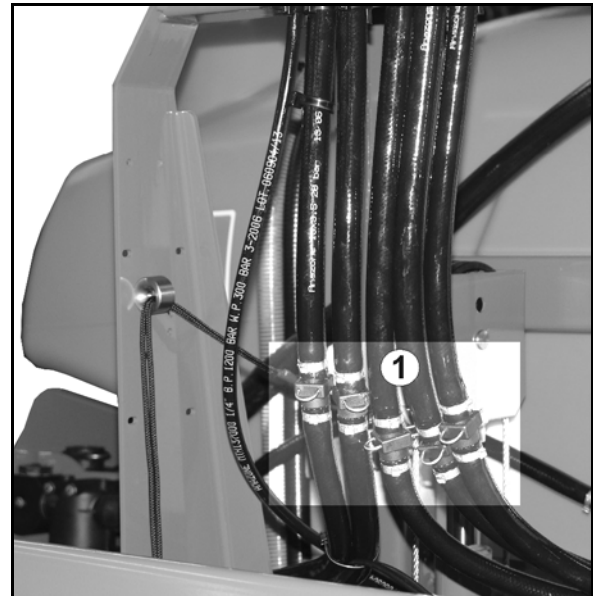
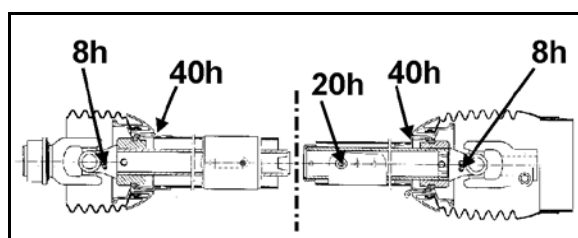

Fig. 134
Fig. 135
2. Remove and clean the suction filter (Fig. 134/1); see Seite 165.
- 5.1 Drain the pressure filter (Fig. 134/2) via tap **C**.
- 5.2 Unscrew the agitator hose (Fig. 135/4) (which comes out of tap **C**) from the spray liquid tank.
6. Unscrew the supply hose (Fig. 135/1) from the control valve. The supply hose (Fig. 135/1) connects the VARIO control on the pressure side (Fig. 134/B) with the suction chest.
7. Unscrew the return hose (Fig. 135/2) for the part width section valve from the VARIO control on the suction side (Fig. 134/A).
9. Remove the internal cleaning hose (Fig. 135/3) for the VARIO control on the pressure side (Fig. 134/B).
14. Move the VARIO control on the suction side (Fig. 134/**A**) and the VARIO control on the pressure side (Fig. 134/**B**) several times between all their switch positions.